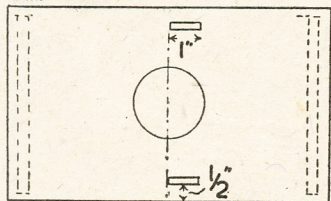

Fig. 4—Detail of lid of case
The lid of the case, which carries the lens, is shown at Fig. 4. Cut it from $\frac{3}{4}$ in. wood to the outside dimensions of the case, and at the right spot, each end, glue inside a strip of thin wood to keep the lid in its correct position. In the centre of the lid bore a hole of a suitable size for the lens.
given at (D) in Fig. 4. These can be cut from $\frac{1}{4}$ in. fretwood. The mortise slots for their reception, to be cut in the lid, are marked off on one side of a line cutting across the middle of the lid, as will be seen.